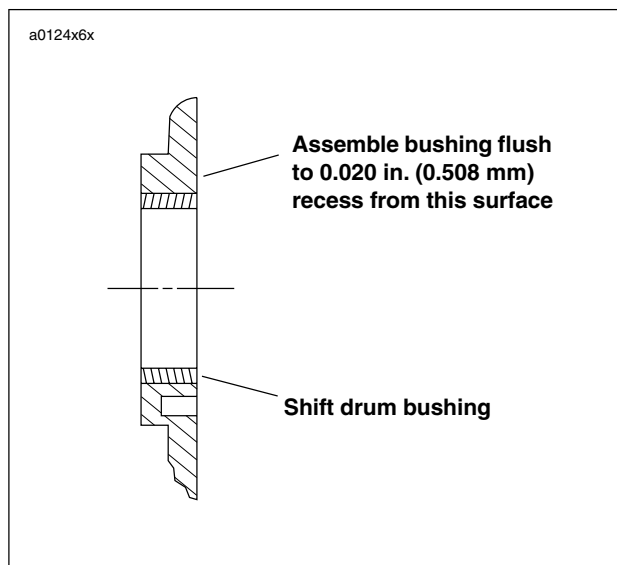

Figure 6-46. Shift Drum Bushing Assembly
2. See Figure 6-46. Lay bushing squarely over bore. Locate socket or pipe that is slightly larger than diameter of bushing. Place socket or pipe on bushing and press into bore until bushing is flush with or 0.020 in. (0.508 mm) below inside surface. If using a pressing tool larger than diameter of bushing, the pressing tool will bottom against crankcase when bushing is flush with top surface.